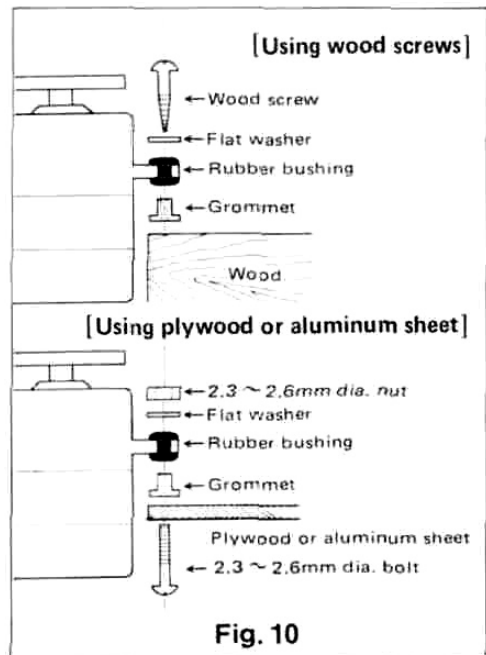

Fig. 10
- Install the servo firmly. Refer to Fig. 10 at the right.